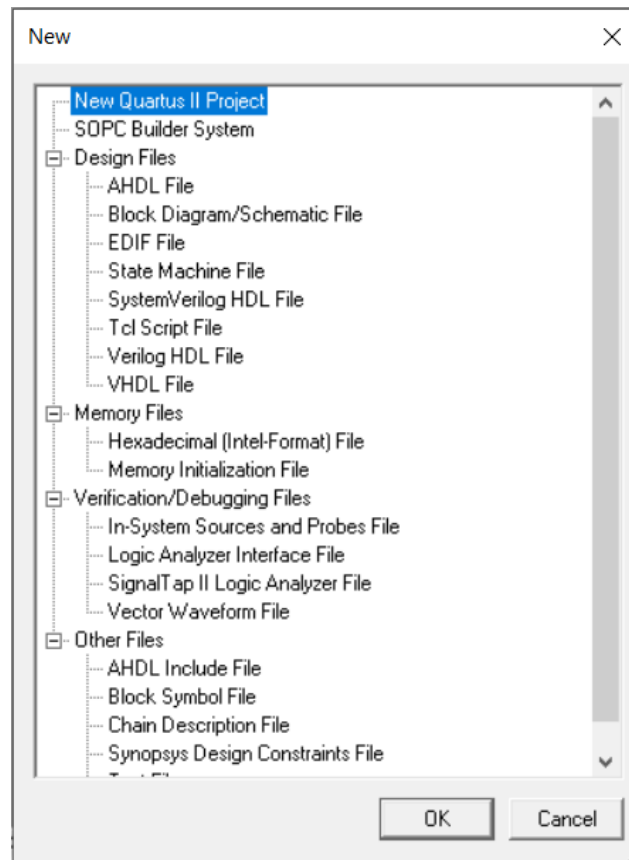
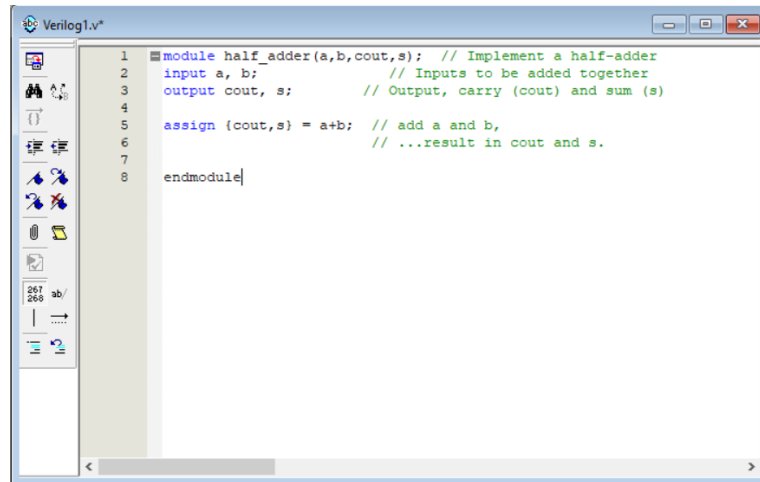
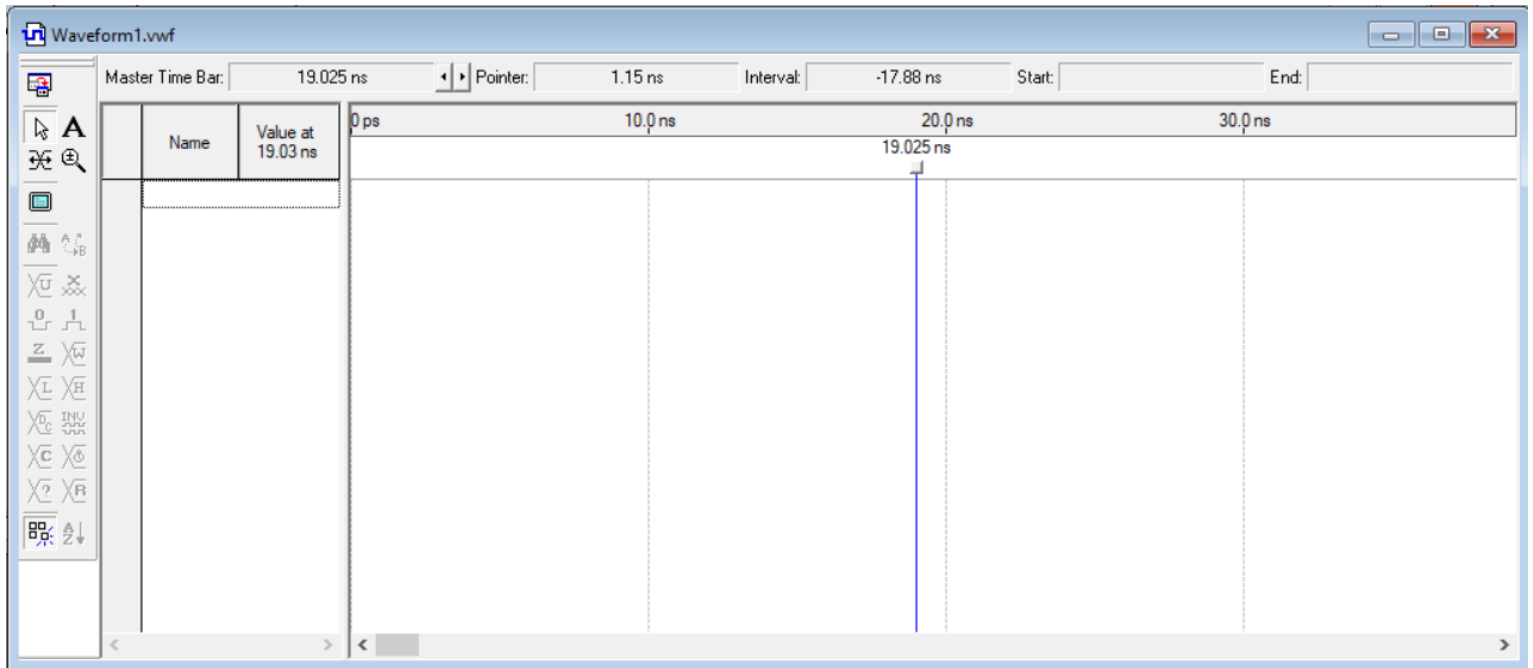

Figure 8.9: to create new files.
Figure 8.10: simple code for half adder.
Figure 8.13: Vector waveform File.
1. To make new File, press File > New, the window in Figure 8.9 will appear.
2. For this lap we choose **Verilog HDL** File from Figure 8.9. Then a white screen will appear on which we will write the code. the Figure 8.10 show simple code for half adder.
- To test code, we choose **Vector Waveform File** from Figure 8.9. This File is used to check the functionality of the design works as expected or not. Figure 8.13 shows a Vector waveform File.
1. To start new File, press File > New, the window in Figure 8.9 will appear press **Block Diagram /Schematic File**.